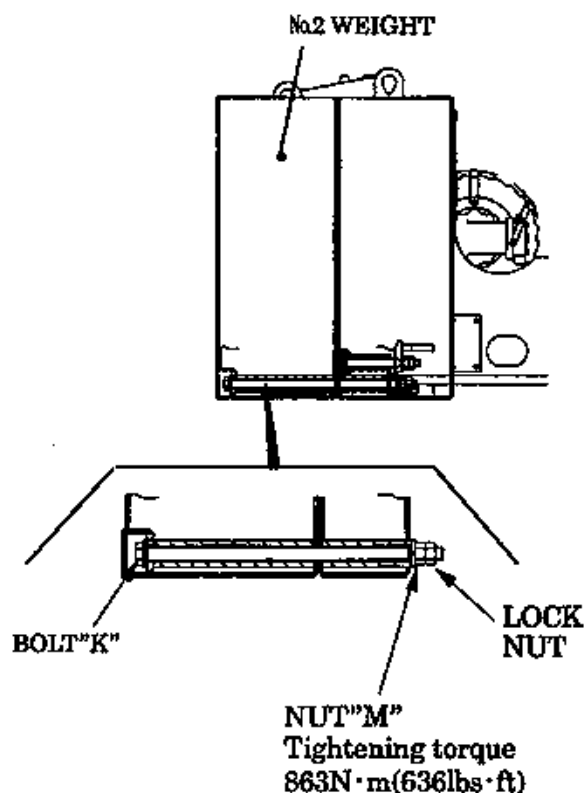

Fig 5-16B
(6) Pass the bolt "K" (Fig. 5-16B) through the weights, and fix all of them with the nut "M" (Fig. 5-16B). Then, lock it with the lock nut.